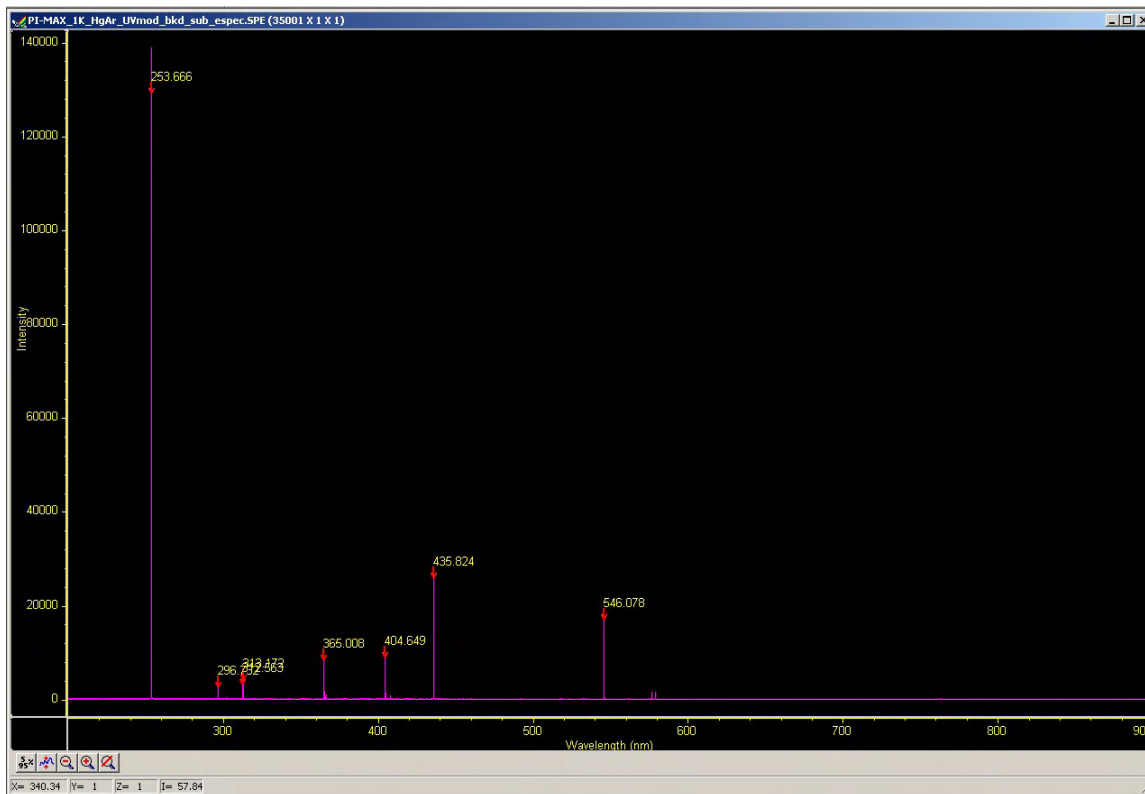

Figure 9. Decoded Spectrum displayed in WinSpec data window
- Click the **Decode** button and the spectrum should be displayed on the screen. This file can be saved as a standard WinSpec *.spe file and can be used with any of the post-processing tools, such as Image Math, Peak Find, etc. As can be seen in Figure 9, the resulting image is displayed with intensity in the Y-axis and calibrated wavelength on the X-axis.